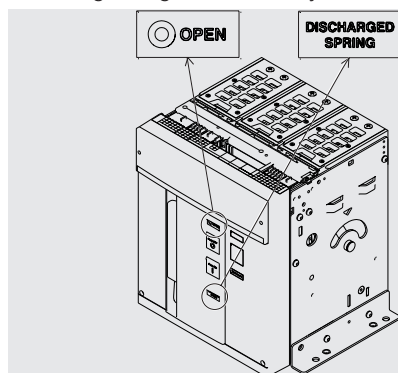

Figure 25
1. Check that the circuit-breaker is open (open / closed indicator "O - OPEN"), and check that the springs are discharged (spring signalling device "white - DISCHARGED SPRING") as indicated in Figure 25.